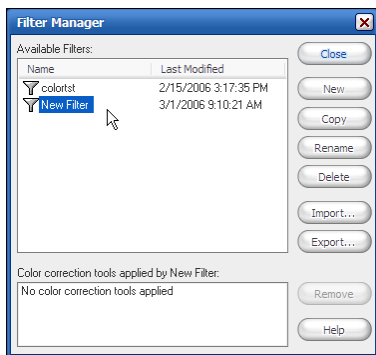

Figure 15—Filter Manager
1. Click **File > Filter Manager** (see Figure 15).